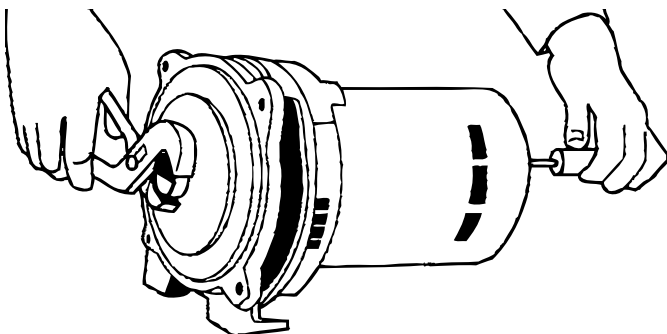

Figure 11 - Remove Impeller
5. Remove impeller by holding pump shaft with water pump pliers and unscrewing impeller – left-hand counterclockwise facing the impeller to remove (Figure 11.) Impeller can also be removed by prying out motor shaft end cap. Use a screwdriver in slot in end of shaft or a 7/16" open end wrench on shaft flats and hold to prevent shaft rotation. Unscrew impeller counterclockwise.
5. Hold pump shaft with pliers and unscrew impeller as shown (Figure 11.)